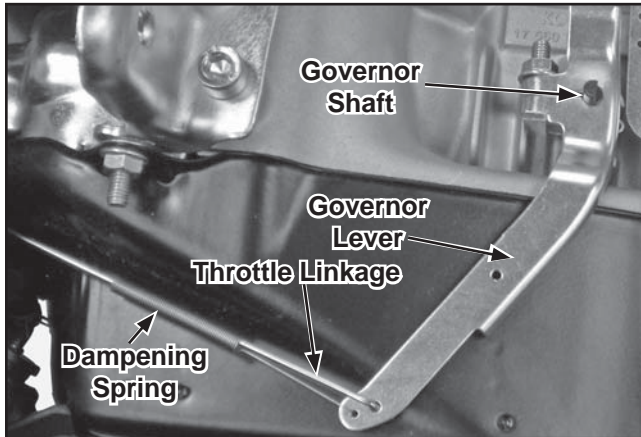

Figure 11-74. Governor Lever Installation.
1. Connect the throttle linkage and dampening spring to the arm of the governor lever as shown. See Figure 11-74.